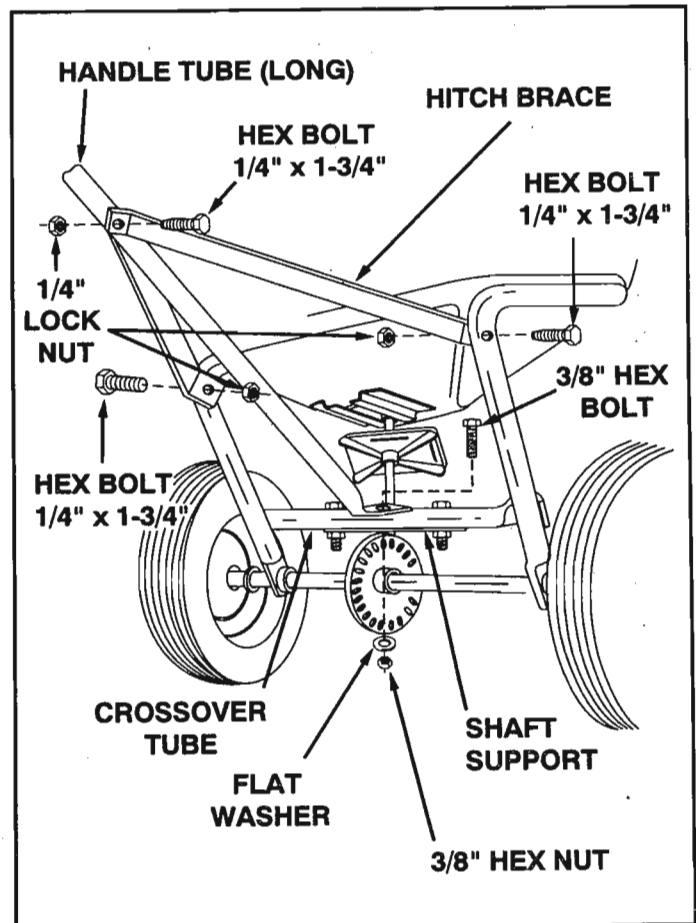

FIGURE 8
- Assemble the two hitch braces to the inside of the hopper frame, one on each side, using two 1/4" x 1-3/4" hex bolts and two 1/4" lock nuts. See figure 8. **DO NOT TIGHTEN AT THIS TIME.**
- Align the holes in the ends of the two hitch braces with the nearest hole in the handle tube assembly, secure with 1/4" x 1-3/4" hex bolt and 1/4" lock nut. See figure 8.